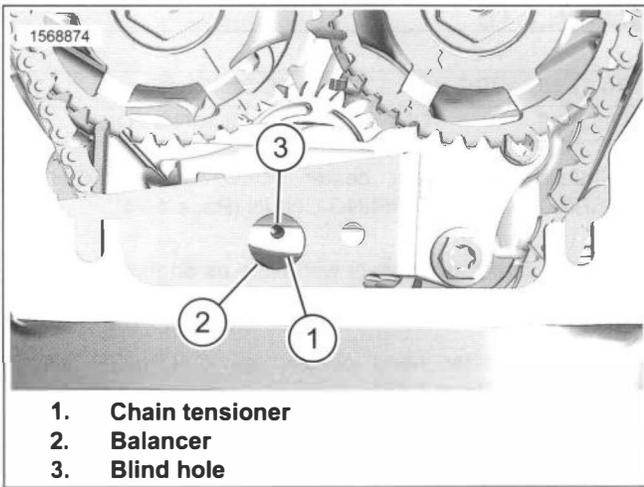

Figure 4-44. Balancer Lock Holes
3. See Figure 4-44. Install locking pin from unloader through chain tensioner (1) into blind hole (3) to lock balancer (2).